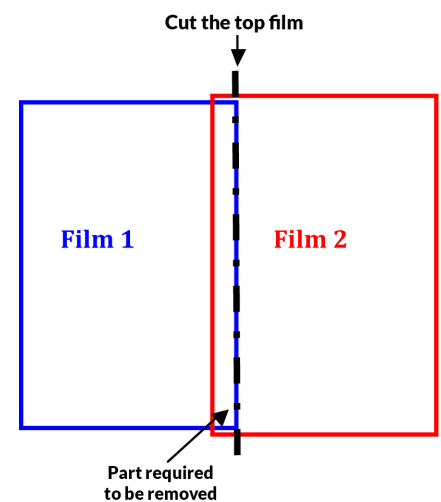

Figure 03
- › If the covering of the surface requires the installation of several successive widths, make the joints between the widths in the following manner (FIG. 03): Install the second width (film 2) with an overlap of approximately 1 cm (0.39 in.) over the next width (film 1). Using a box cutter, cut the overlapping film (film 2) along the edge of the overlapped film underneath (film 1). Remove the surplus cut of film 2.